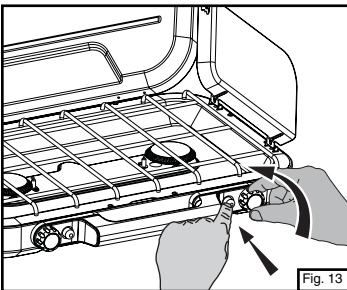

Fig. 13
- Open burner valve and push igniter button repeatedly until burner lights. (Fig. 13)